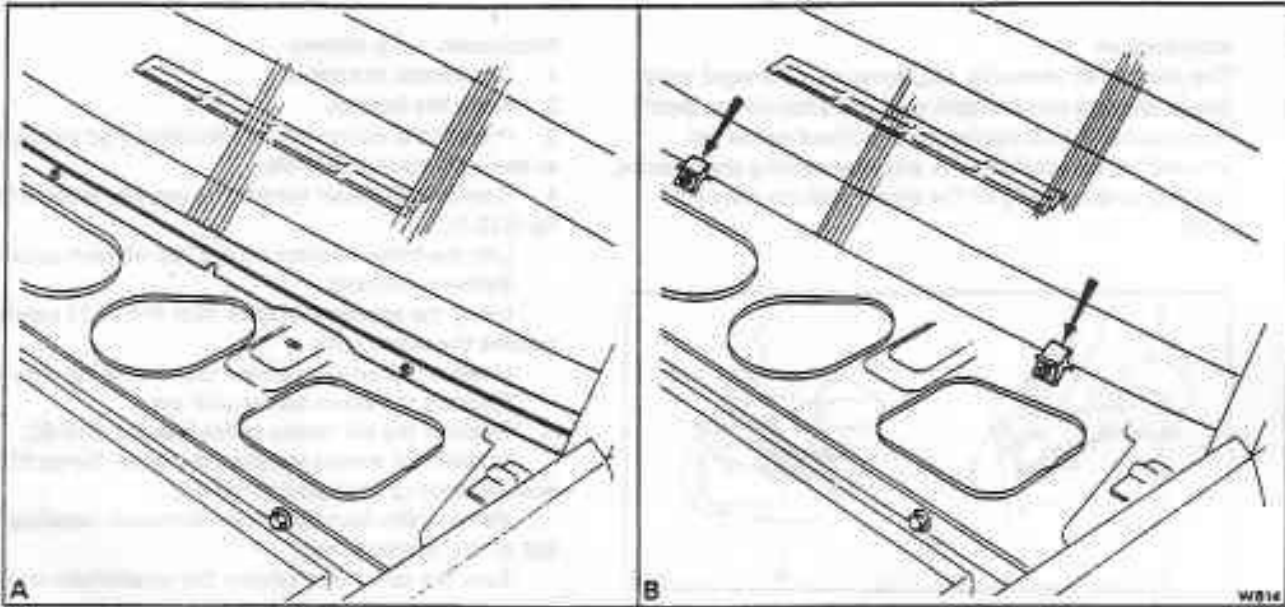

Fig. S10-3 Removing the retaining strip/brackets from the bottom of the windscreen
6. On early cars, remove the stainless steel strip and lower seal from the bottom of the windscreen (see fig. S10-3, A).
On later cars, remove the small brackets (arrowed) spaced evenly along the bottom of the windscreen (see fig. S10-3, B).
24. On cars fitted with the stainless steel strip across the bottom of the windscreen (see fig. S10-3, A), remove the lower spacer blocks. Press the lower seal into position, between the glass and body, then secure the strip with self-tapping screws.
On cars fitted with the small brackets across the bottom of the windscreen (see fig. S10-3, B) secure the brackets, ensuring that the inner sections are sitting firmly against the bottom edge of glass. Remove the lower spacer blocks.